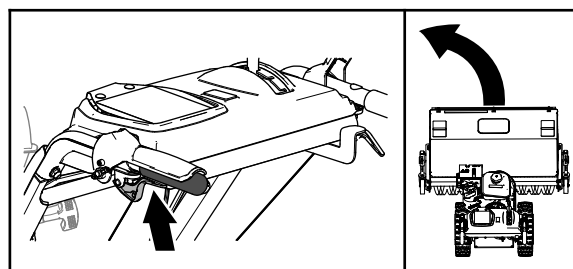

Figure 16
- To turn left, squeeze the traction-drive lever and squeeze the left wheel-clutch lever (Figure 16).